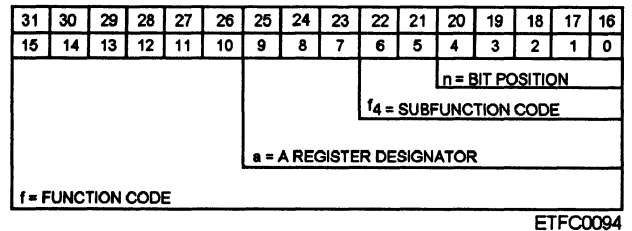

Figure 8-8.—Illustration of instruction word format IV-C.
- **Format IV-C** —Format IV-C instructions (fig. 8-8) are used for individual bit operations. These operations include setting, clearing, or testing an individual bit of a specified accumulator register. The 5-bit **n** field provides the bit position pointer to specify the register bit to be operated on.